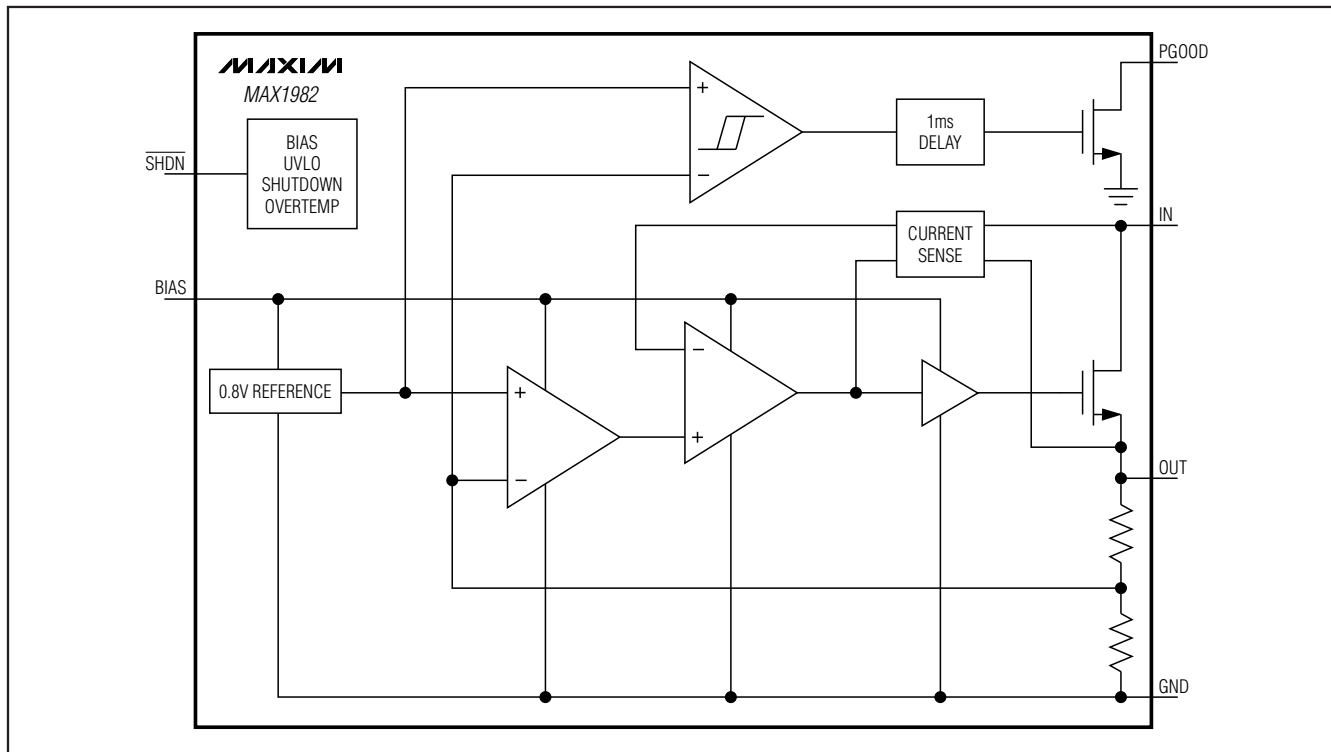

Figure 1. MAX1982 Functional Diagram
The MAX1982/MAX1983 are low-voltage, low-dropout linear regulators with an external bias supply input (see Figures 1 and 2). BIAS is powered by a 4.5V to 5.5V supply that is commonly available in laptop and desktop computers. The 5V bias supply drives the gate of the internal pass transistor, while a lower voltage input at the drain of the transistor (IN) is regulated to provide V_{OUT}. Separating the bias input voltages yields higher efficiency. These devices are ideal for applications that require low-voltage outputs from low-voltage inputs. The MAX1982 delivers 1.2V (±3%) at 300mA from an input voltage of 1.25V to 5.5V. The MAX1983 delivers an adjustable output voltage from 0.8V to 2V.